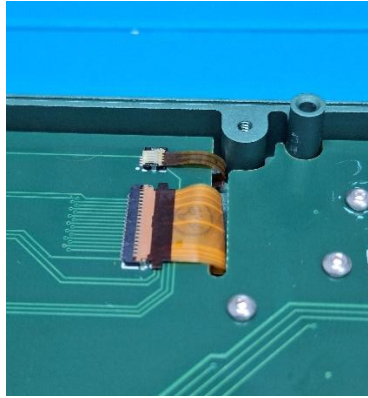

Figure 15: Screen ribbon cables connected to button PCB
7. Connect the two ribbon cables of the screen to the corresponding FPC connectors on the button PCB as shown in Figure 15.